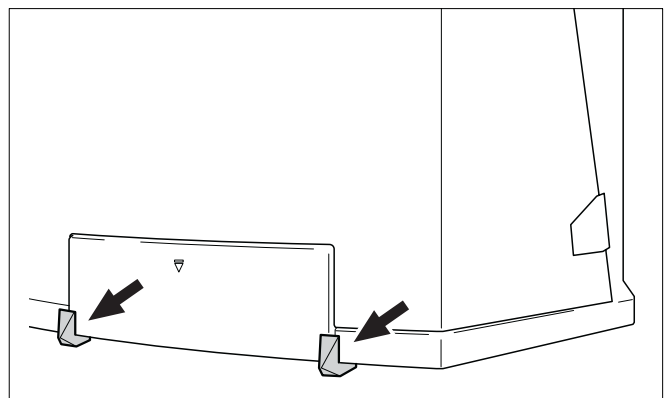

Fig. 6 Removing the transport safety clamps
- Do not remove the transport safety clamps (see fig. 6) from the drawer at this time.
- Remove the transport safety clamps (fig. 6) taking into account the necessary service clearances.